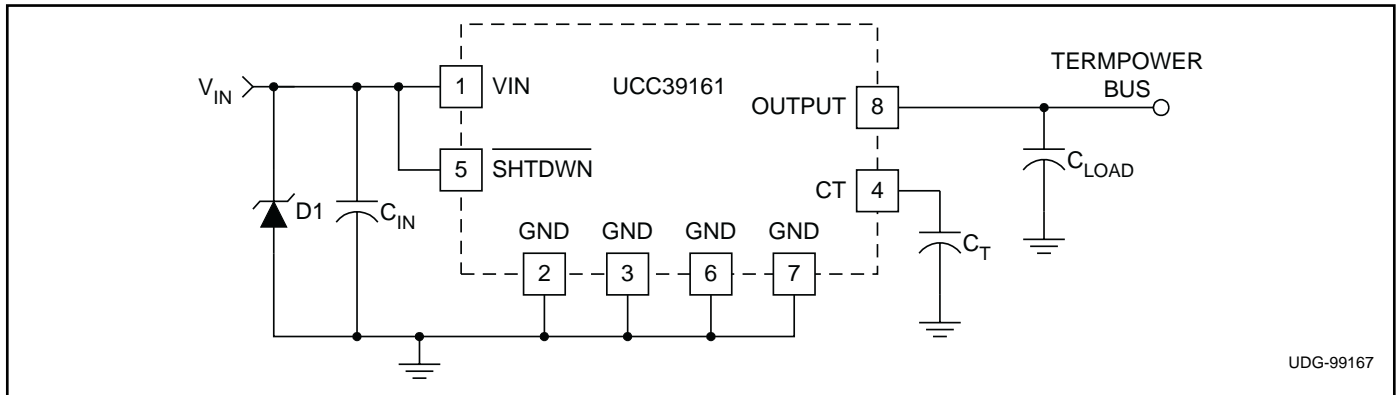

Figure 1. Typical application.
- Decoupling VIN with a capacitor, CIN (refer to Fig. 1), located close to the VIN pin. This capacitor is typically less than 1µF to limit the inrush current.
- Clamping the voltage at VIN below 6V with a Zener diode, D1(refer to Fig. 1), located close to the VIN pin.